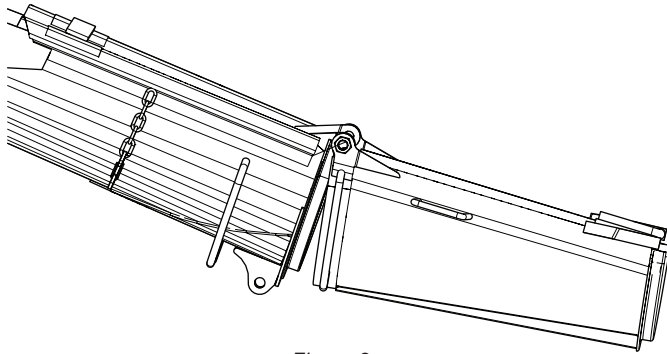

Figure 8
7. The tension is correct when the chute will hold its position in the three positions illustrated in Figures 8, 9, 10.